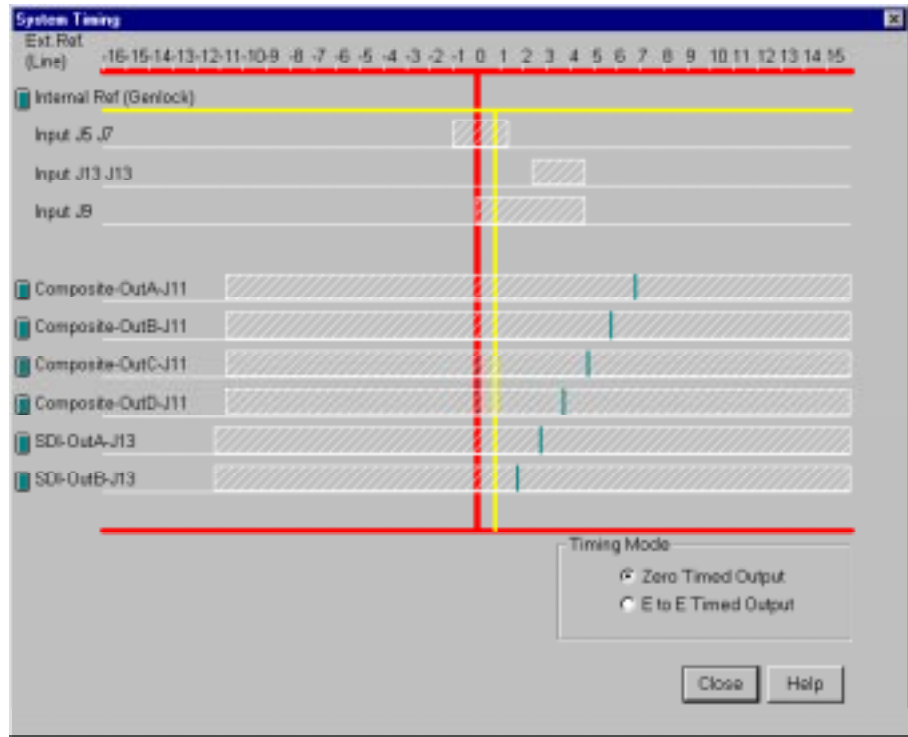

Figure 7. System Timing dialog box, zero-timed
1. Choose **Option | System Timing** or click the **System Timing** button on the toolbar. The System Timing dialog box appears (see Figure 7 which shows an example of how the dialog box looks when the outputs are zero-timed by default).